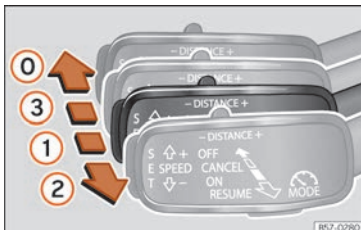
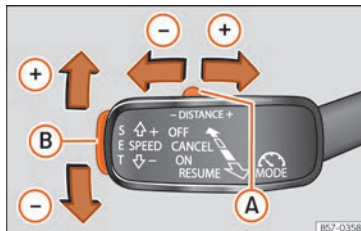

Fig. 264 On the left of the steering column: operating the ACC with the third lever.
Fig. 265 On the left of the steering column: operating the ACC with the third lever.
- To activate the ACC, move the third lever to position **ON** » **Fig. 264** (1). At this time, the ACC is not active and there is no programmed speed.
- Next, press button **SET** » **Fig. 265** (B) or move the lever to position **RESUME** » **Fig. 264** (2). At this moment the ACC is activated and the current speed and distance are programmed. The picture in the box will change to Active mode » **Fig. 262** (B).
• If you wish to increase speed by intervals of 1 km/h (0.6 mph), move the lever to position **RESUME** »» Fig. 264 (2), or to decrease it press button **SET** »» Fig. 265 (B).
• To increase or reduce the distance, press button (A) to the right or left »» Fig. 265.
• To disconnect the ACC move the lever to position **OFF** (fixed) »» Fig. 264 (C). An **ACC deactivated** message appears and the function is totally deactivated.